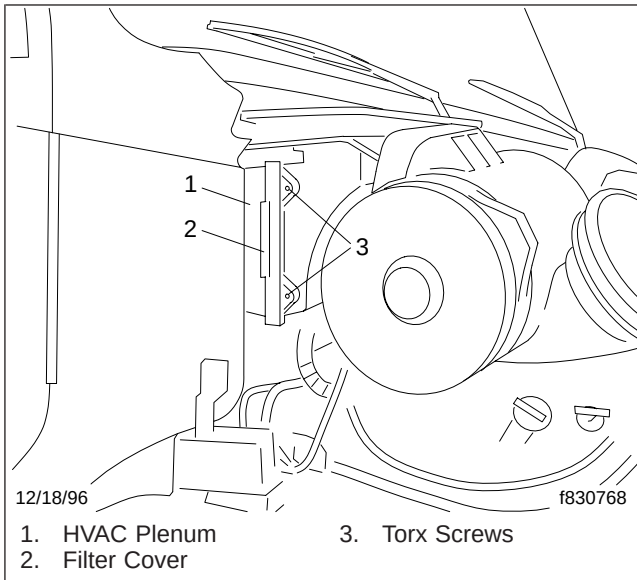

Fig. 2, HVAC Air Intake Plenum, Water-Valve Controlled
2. Remove the two Torx® screws that secure the HVAC air filter cover to the air intake plenum. See **Fig. 2**.